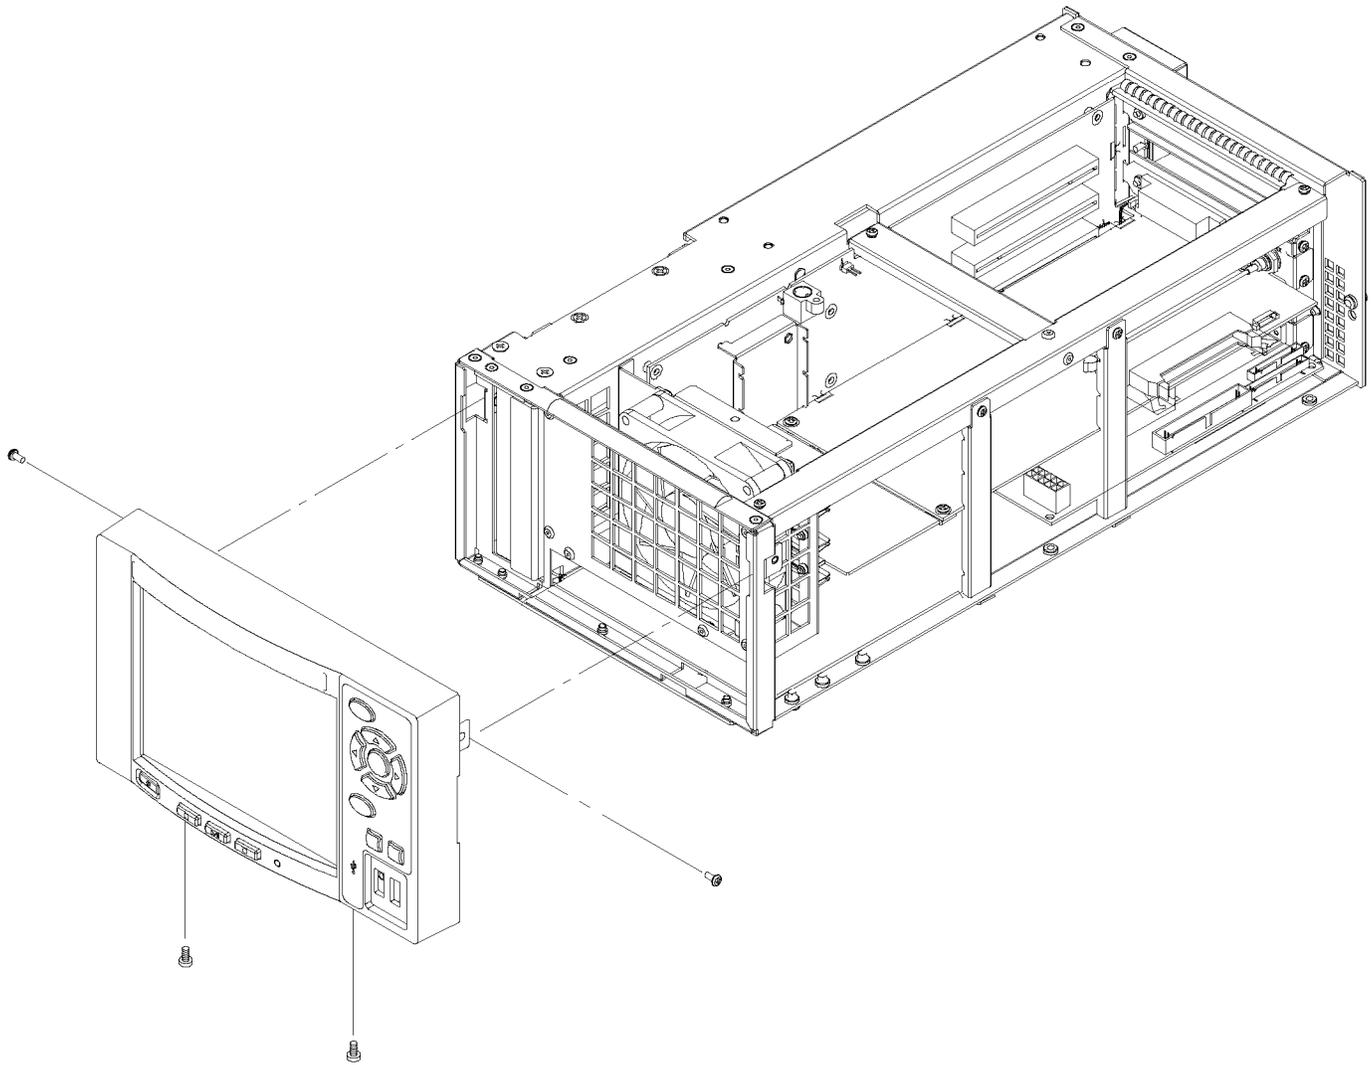

Figure 3-7: Front-panel unit removal
3. Remove front-panel unit: (See Figure 3-7.)